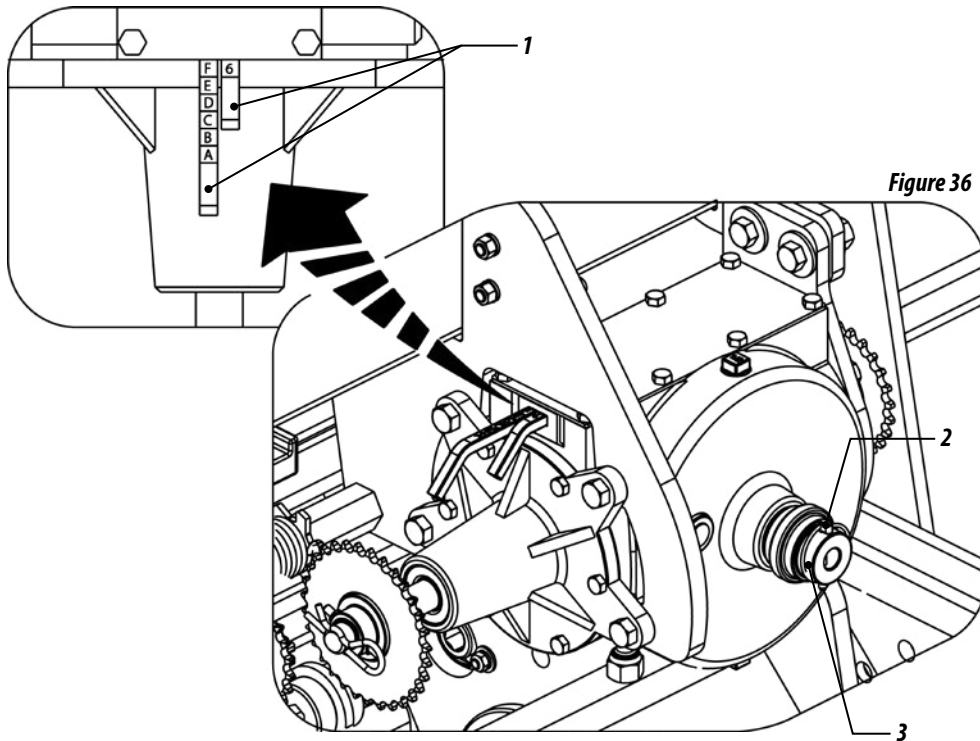

Figure 36
- 2- For fertilizer adjustments, select the desired quantity in tables and check the corresponding combination of cursors (1). Example: position F2 indicates that the cursor with letters must be at position "F" and the cursor with numbers must be at position "2" as shown in Figure 36.
- 3- To move the cursor, remove the lock (2), pull the handle (3) and set them. At the end of the combination, return the handle (3) and replace the lock (2).